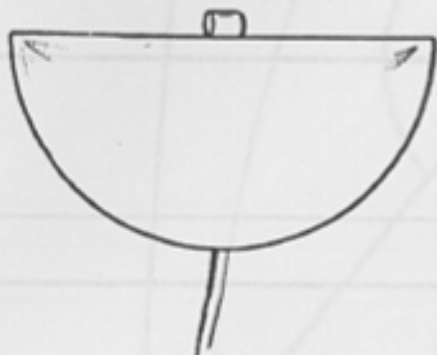
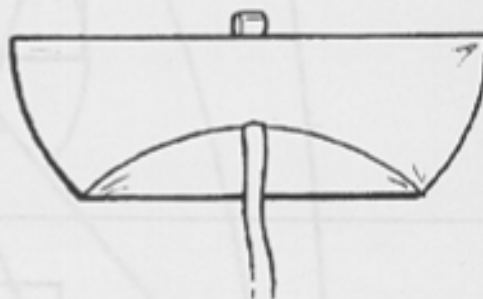

FIG. 1
FIG. 2
- 1) Lay the pilot chute out flat with the mesh side up. Fold the excess bridle on top of the layed out parachute, and fold the pilot chute in half over the bridle (FIG. 1). Now fold the curved side up about 4" (FIG. 2)